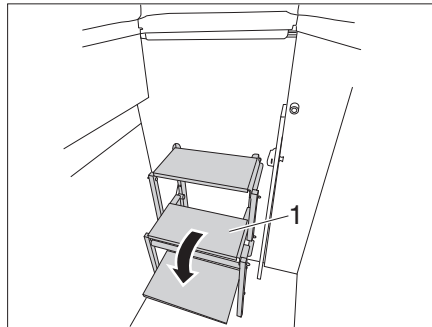

Fig. 58 Extending the step ladder
- Fold out the step ladder (Fig. 58,1).
- Fold in the step ladder (Fig. 58,1).